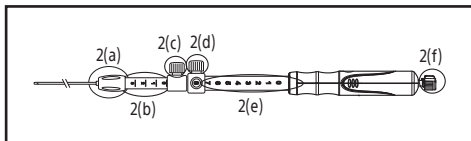

Figure 2.
2. Confirm that the needle is fully retracted and that the needle adjustment lock (Figure 2(d)) is secure in the zero position (Figure 2(e)).
3. Determine the appropriate sheath length relative to the length of the echoendoscope. Use the sheath adjustment lock (Figure 2(c)) to set the desired length of the sheath and lock it in place. Turn the sheath adjustment lock clockwise to lock the sheath in place. The distal end of the sheath should be visible on the endoscopic image.
Note: The reference numbers and markings on the sheath adjust gauge (Figure 2(b)) are intended as reference only.
6. Continue to advance the device until it exits the echoendoscope and the sheath is visible in the endoscopic image. Tighten the luer attachment (Figure 2(a)) by turning clockwise to attach the device to the working channel port of the echoendoscope.
Note: If it is necessary to adjust the sheath length, loosen the sheath adjustment lock (Figure 2(c)) and reposition it to the appropriate reference point.
8. Adjust the needle penetration depth to the desired position using the needle adjustment lock (Figure 2(d)). To control the depth of needle penetration to the target site, loosen the needle adjustment lock by turning the knob counterclockwise. Align the needle adjustment lock with the appropriate reference number on the device handle. Lock in place by turning the needle adjustment lock clockwise.
Note: The reference numbers on the needle depth gauge (Figure 2(e)) are intended as reference only. The reference numbers represent needle extension (in centimeters) when the device is in a straight position.
10. Remove the stylet (Figure 2(f)) from the aspiration port of the device by gently loosening and pulling it from the device handle.
Note: The stylet can be coiled and clipped together using the clip mechanism on the stylet cap (Figure 2(f)). The stylet should be retained for additional needle passes during the same procedure.
12. Connect the supplied syringe to the aspiration port (Figure 2 (f)) on the device handle.